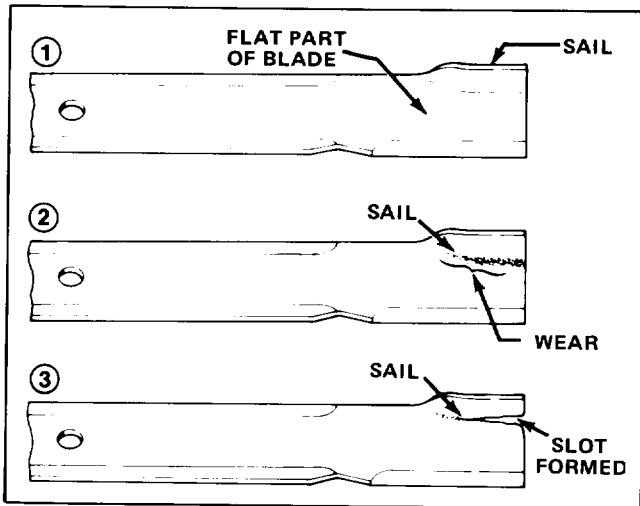

Figure 23
2. Examine cutting ends of the blade carefully, especially where the flat and curved parts of the blade meet (Fig. 23). Since sand and abrasive material can wear away the metal that connects the flat and curved parts of the blade, check the blade before using the mower. If wear is noticed (Fig. 23), replace the blade.